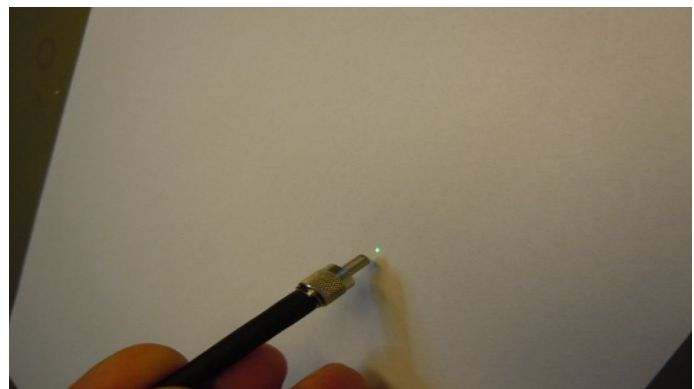

Figure 51:
- place the other fiber end close to a white paper (see Figure 51: )